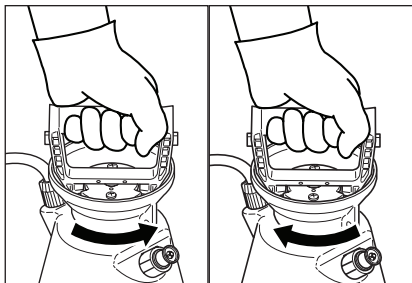

Figure 5.
1. Turn the pump handle counterclockwise to remove the pump. See Figure 5.